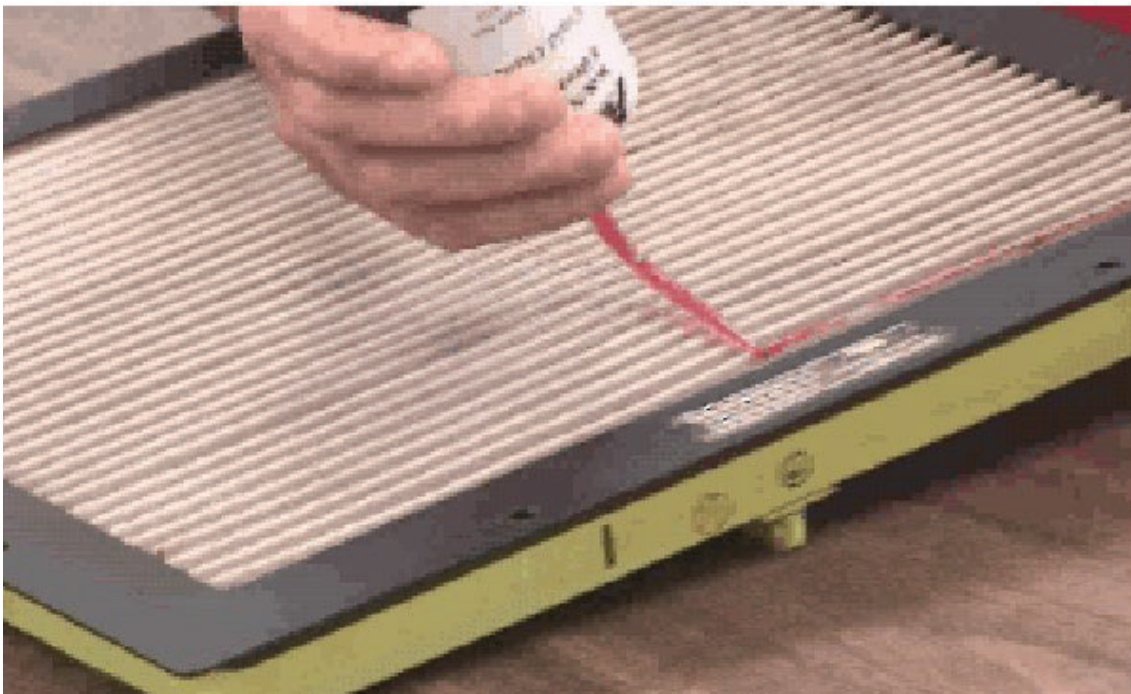

Figure 7: OILING MEDIA
- a. The filter will not function properly if other types of oil are used. DCI Air Filter Oil is a unique blend of mineral and organic oil base stocks and special polymers that form a very efficient "tack barrier." Red dye is added to show areas of oil application. Do not use transmission fluid, any kind of motor oil, or diesel fuel to oil the DCI filter. Do not use "WD-40," "LPS," or any other type of lightweight spray lubricants to oil the DCI filter. Any of those products will damage the filter or degrade its filtering ability. A squeeze bottle allows for the controlled application of a specific amount of oil to the filter (See Figure 7).